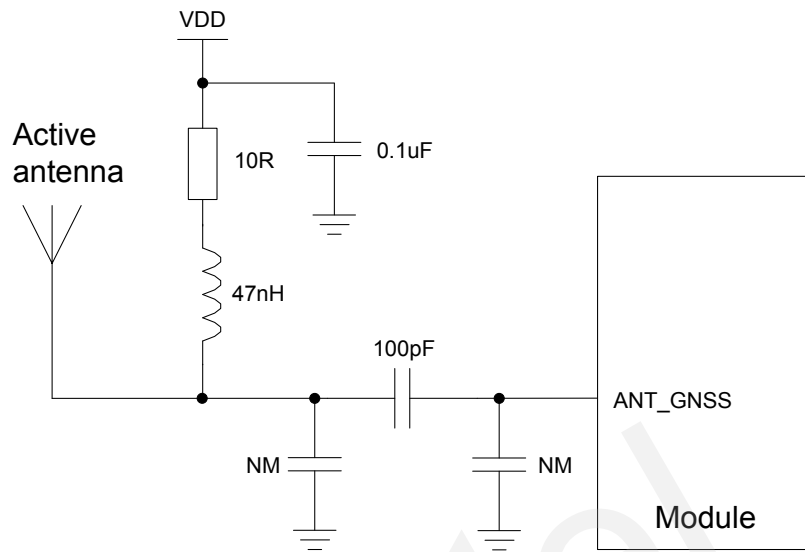

Figure 30: Reference Circuit of GNSS Active Antenna
3. In Figure 30, VDD supplies power for active antenna. You can choose the right VDD according to the requirements for active antenna. This power circuit is not needed if passive antenna is applied here.